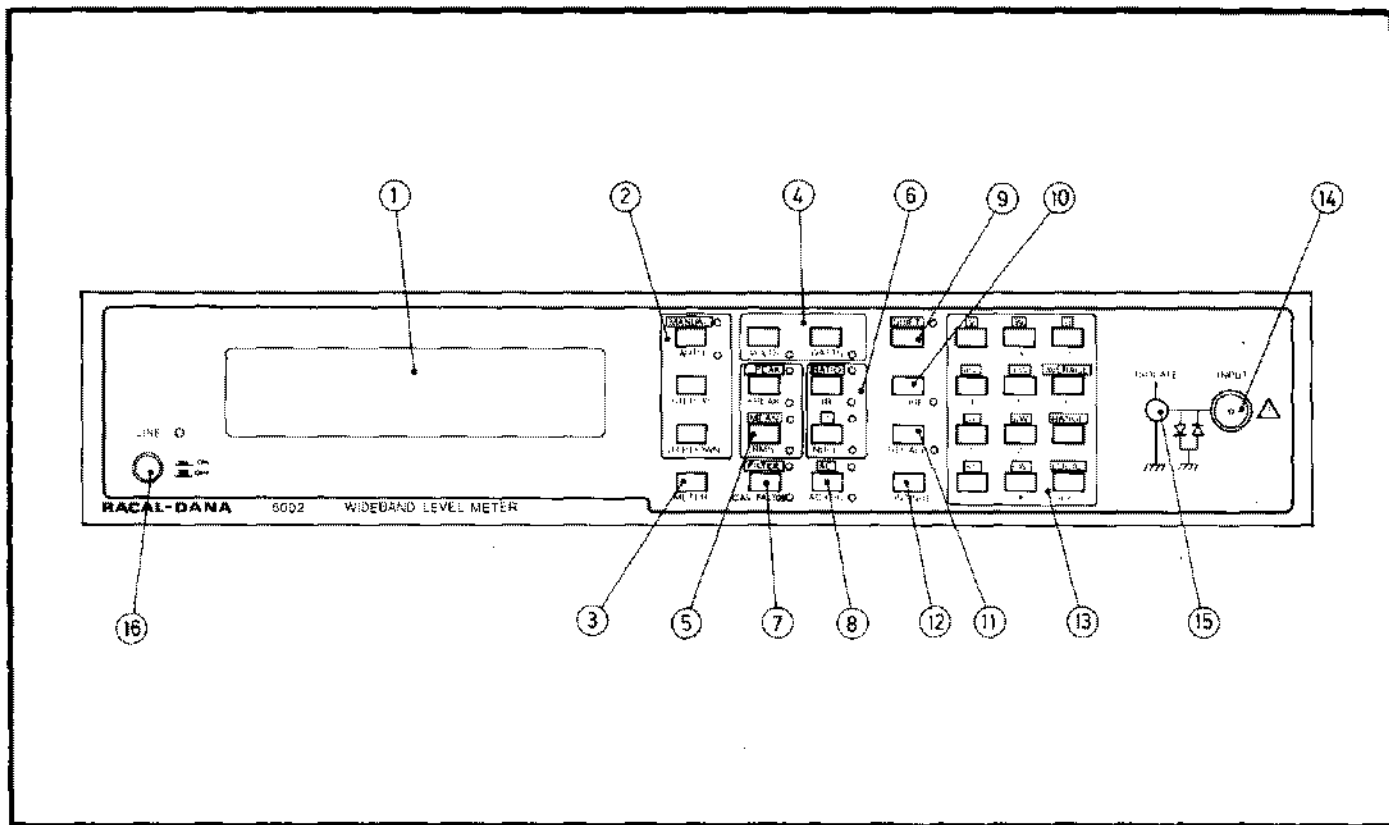
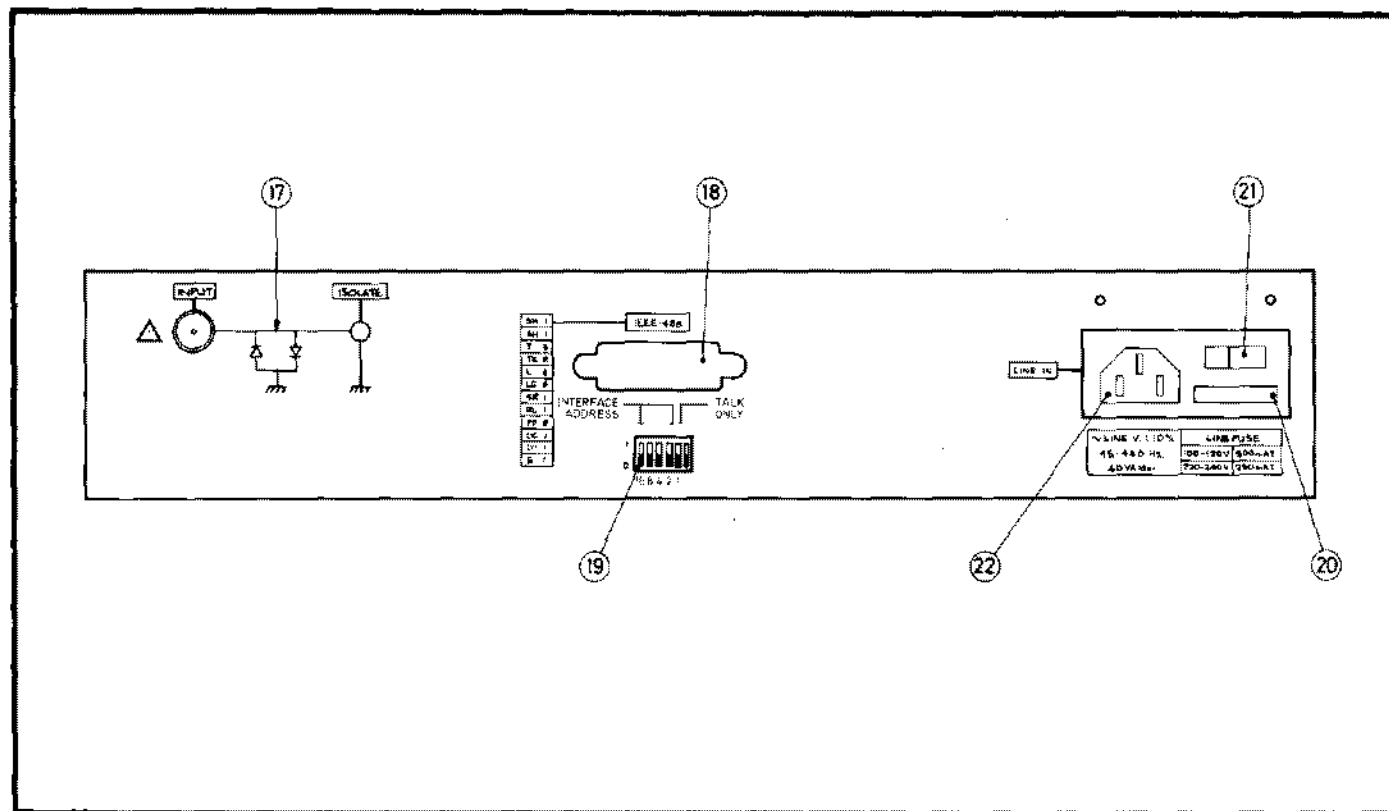

Fig. 4.1 Front Panel
Fig. 4.2 Rear Panel
4.2.1 Each group of controls or connectors described is numbered to correspond with the indicators on Fig. 4.1 (front panel) or Fig. 4.2 (rear panel).